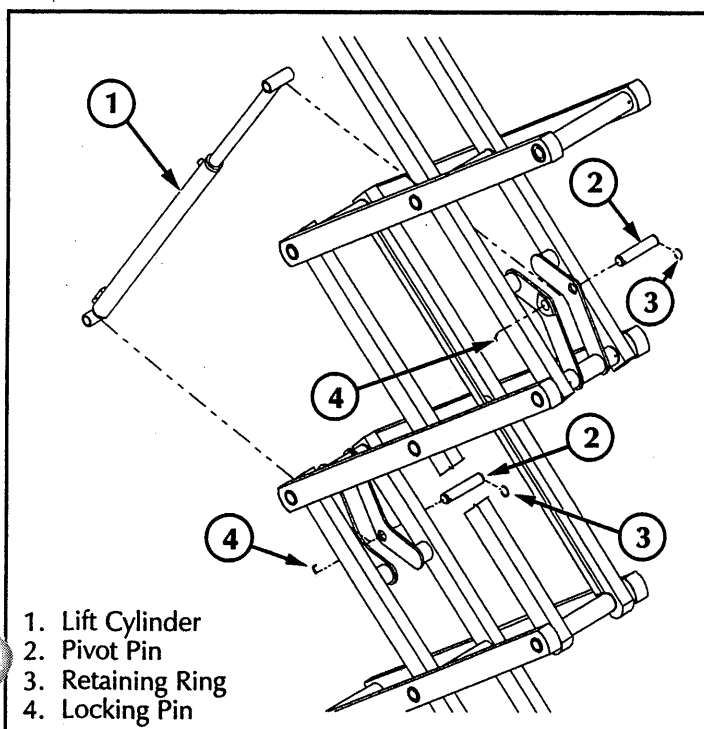

Figure 4-12: Lift Cylinder
4.12 Lift Cylinder (Figure 4-12)